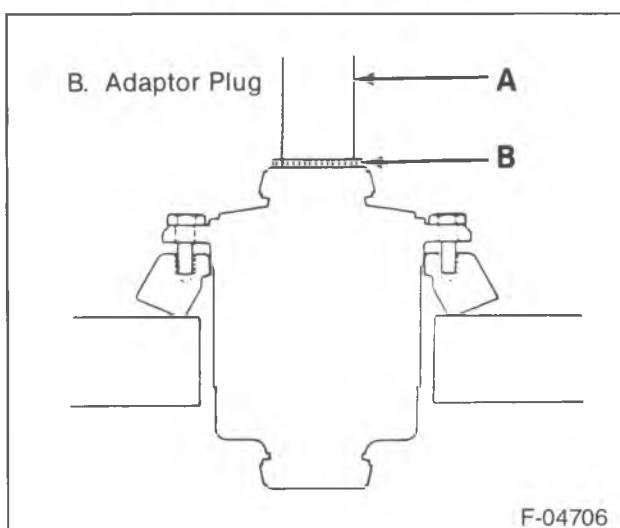

Figure 19—Installing the Ring Gear to the Case
- Press the ring gear onto the case far enough to start the bolts using J 8107-3 to protect the differential from the press ram (figure 19).
- New ring gear bolts (26).